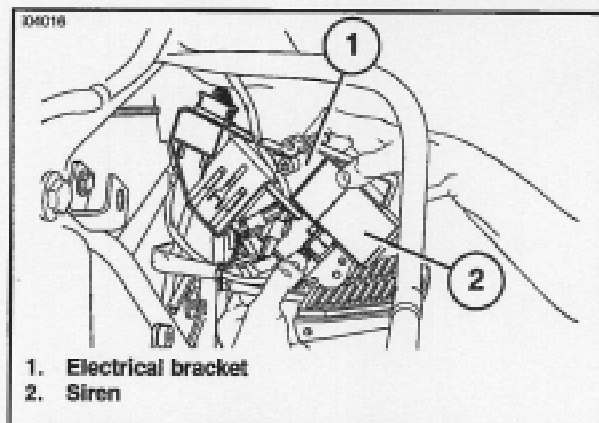

Figure 9. Slide Siren into Place (Touring Models)
6. See Figure 9. Slide the siren (2) into place on the back of the electrical bracket (1) so the sounder disc faces outward.